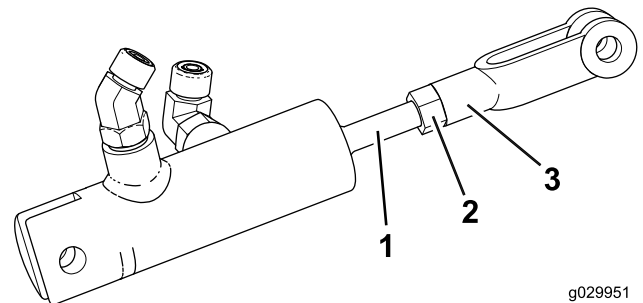

Figure 6
2. Loosely install the brake-linkage yolk to the cylinder rod until it contacts the jam nut (Figure 6).